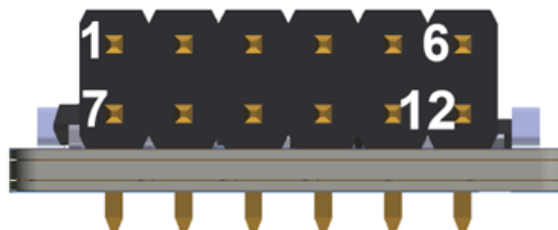

Figure 4. JP1: Pin Numbering (Front View)
- Figure 4. JP1: Pin Numbering (Front View)4